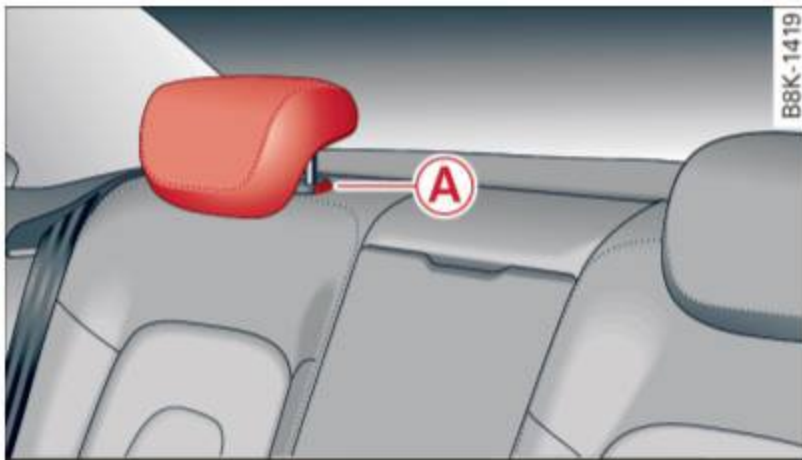
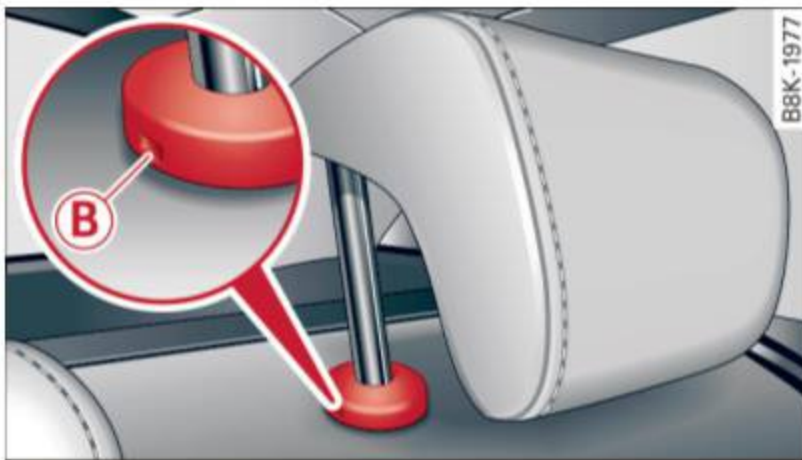

Fig. 55 Rear seats: head restraints
Fig. 56 Rear head restraints: release
- ▶ To move the head restraint down, press the button **A** ⇒ fig. 55 and slide the head restraint downward.
- ▶ Press the release **B** ⇒ fig. 56 with the mechanical key ⇒ page 34 and the button **A** ⇒ fig. 55. Pull the head restraint out of the backrest at the same time ⇒ ⚠.
- ▶ Press the button **A** ⇒ fig. 55 and slide the head restraint all the way down. You should not be able to pull the head restraint out of the backrest.